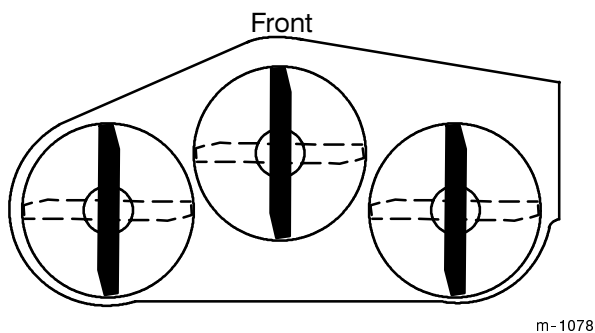
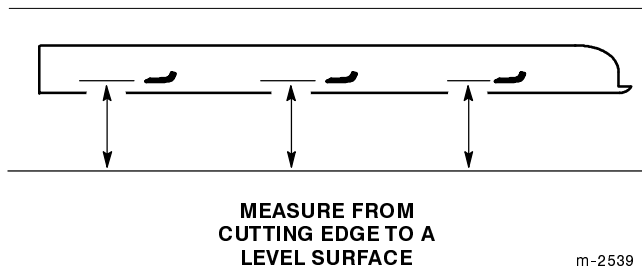

Figure 33
Figure 34
2. Rotate the blades until the ends face forward and backward (Fig. 33). Measure from a level surface to the cutting edge of the blades (Fig. 34). Note this dimension.